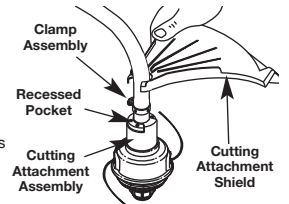

Fig. 2
1. Place the cutting attachment shield onto the shaft housing above the clamp assembly (Fig. 2).
2. Push the cutting attachment shield down to the top of the cutting attachment assembly and then rotate the cutting attachment shield until the screw holes align and the guard fits into the recessed pocket (Fig. 2).